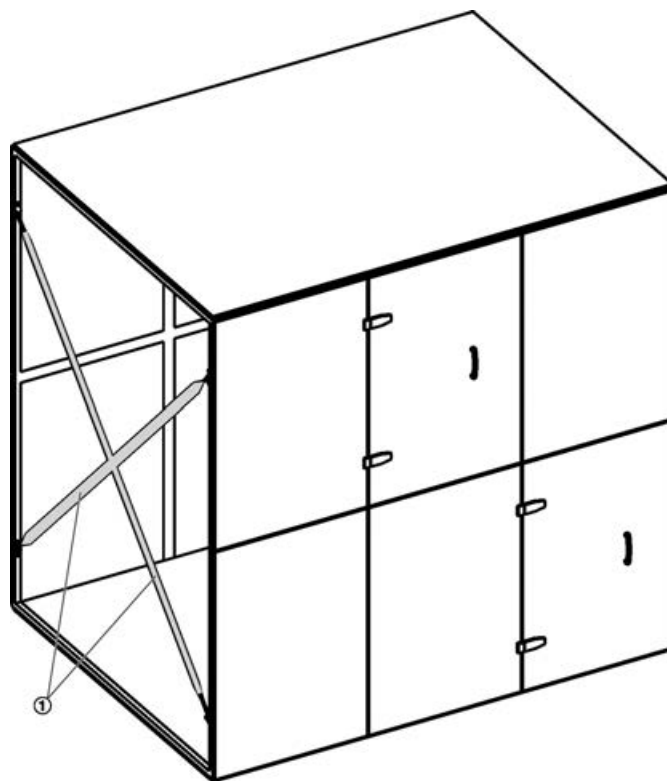

Fig. 9: Transport straps
- ▶ Cut the transport straps (Fig. 9 / 1) and remove them completely.